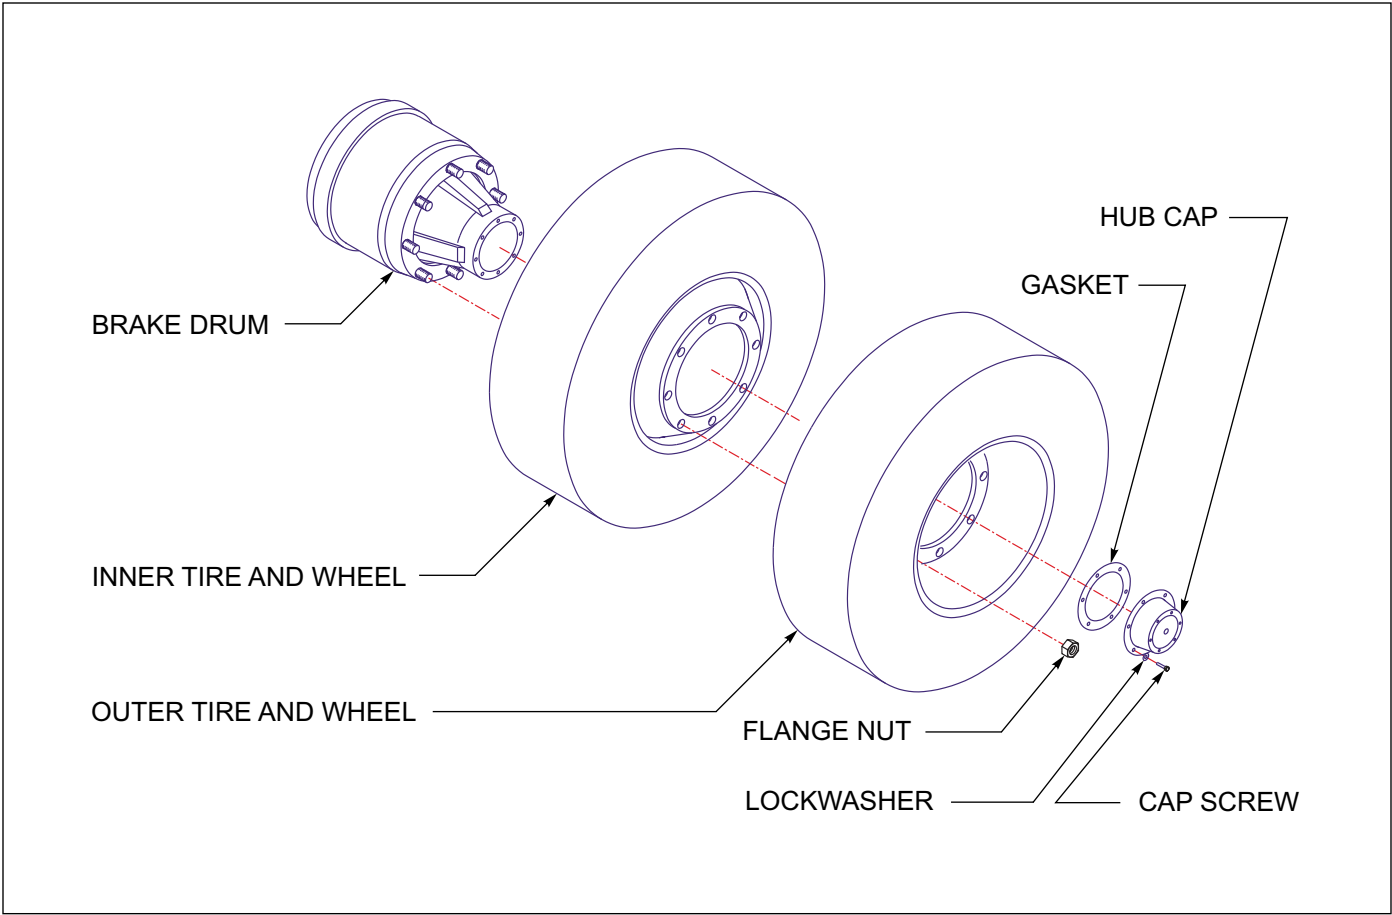

Figure 4-18: Mounting Tires and Wheels
1. Make sure that all mounting surfaces are clean and free of rust, dirt or paint. A wire brush may be used to clean these surfaces (See Figure 4-18.)